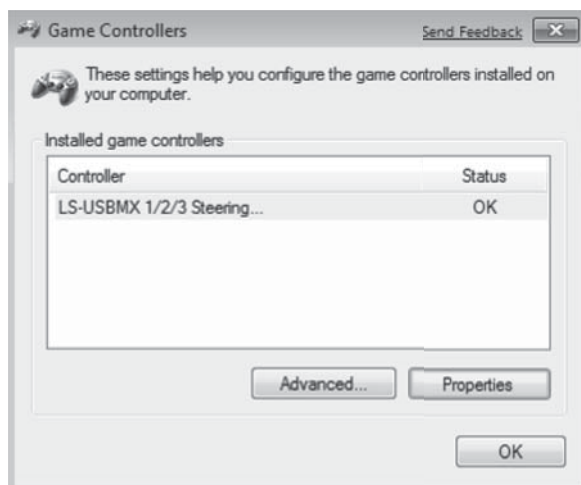

Fig. 6
- Insert the Software CD disk into the disk drive of your PC and launch setup.exe to install drivers on your PC. Go to the game controller settings in the control panel and Game Controllers window should appear on the Desktop of your PC (Fig. 6).